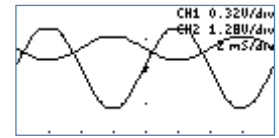

Figure 60: BJT Measurements
- 6) Increase the AWG offset until the CH2 wave is centered on the display. The display should look like figure 60.